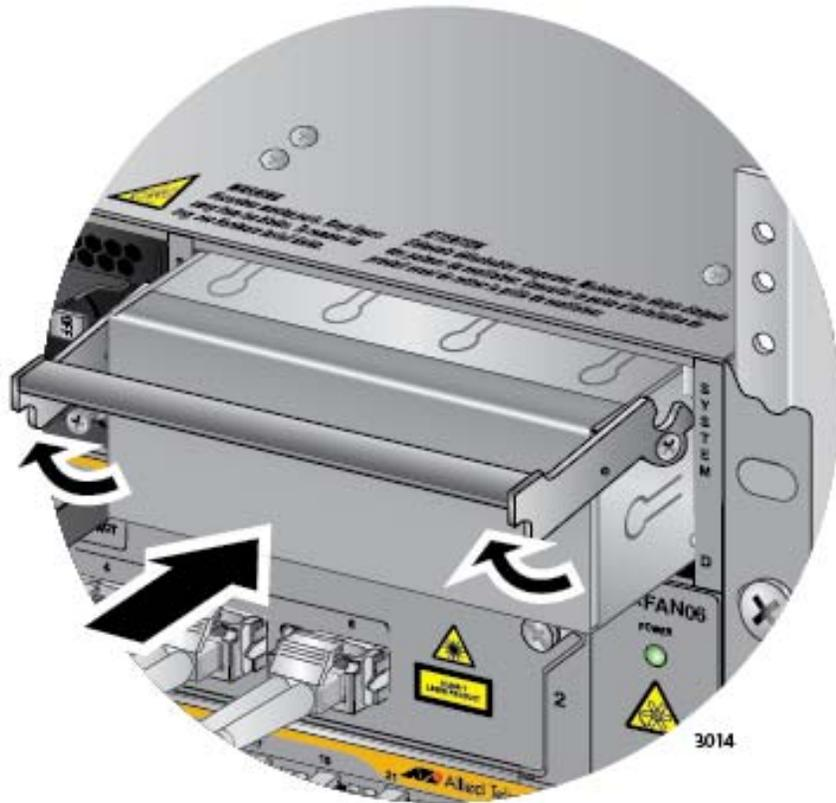

Figure 151. Installing a Blank Power Supply Slot Cover
13. Place the locking handle on the slot cover in the up position and slide the cover into the empty power supply slot. Refer to Figure 151 on page 220.